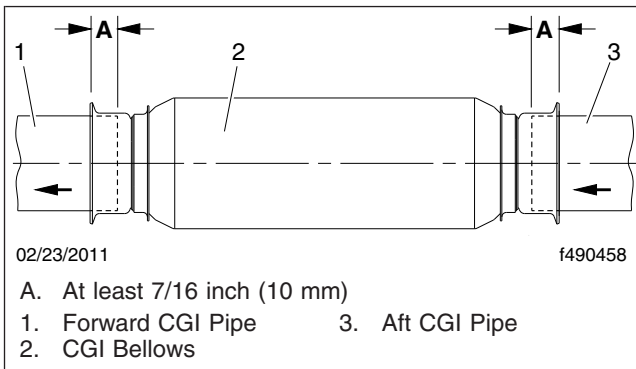

Fig. 11, CGI Bellows Installation
12. Slide the new bellows onto the aft CGI pipe as far as it will go. See Fig. 11, Ref. A. Measurement A should be at least 7/16 inch (10 mm) past the face of the flange.
16. Using the yellow marks, center the bellows between the exhaust pipes. Verify that the pipe is inserted at least 7/16 inch (10 mm) past the face of the flange. See **Fig. 11**, Ref. A.